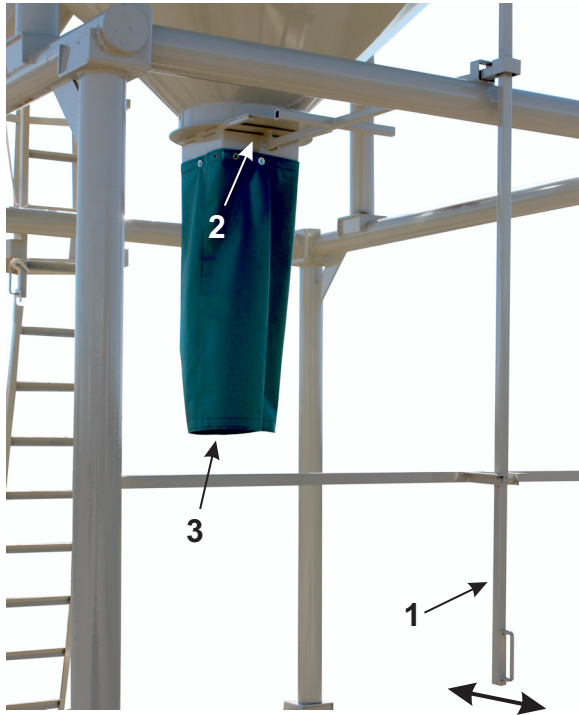

Figure 5-3 – Silo Unloading
1. Position the feed trailer under the feed chute (3, Figure 5-3).
2. Pull the feed chute valve lever (1, Figure 5-3) outwards, opening the feed chute valve (2, Figure 5-3) to load the trailer.